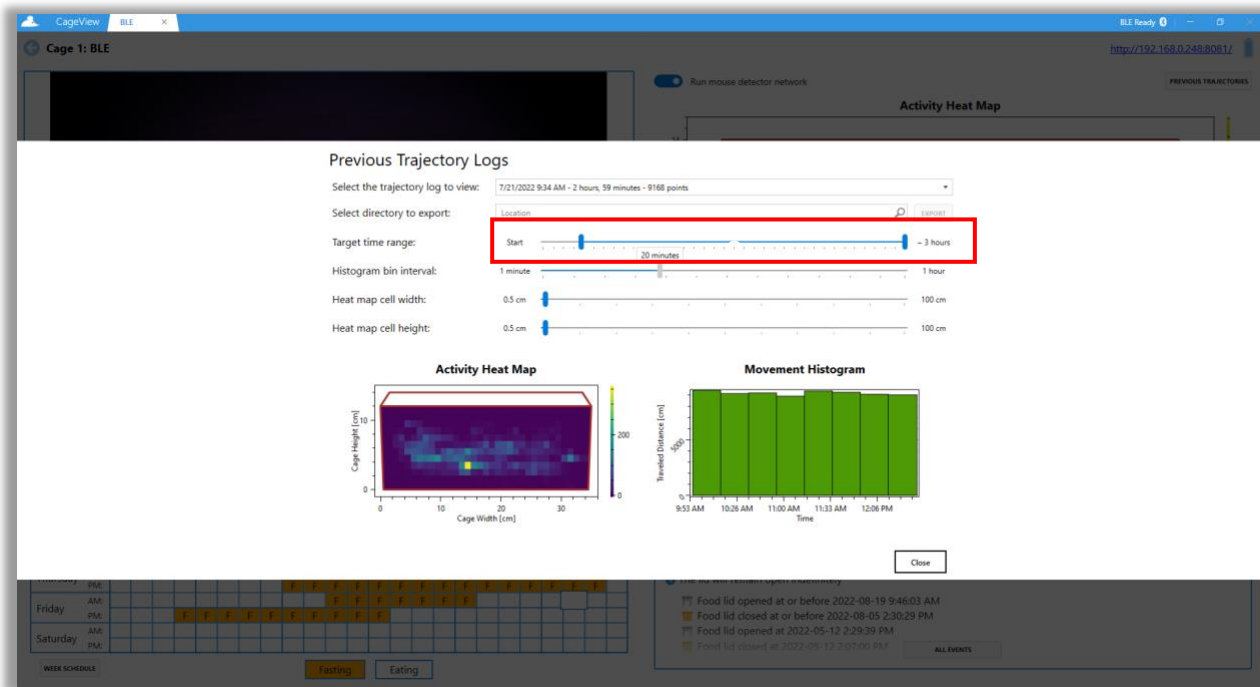

Figure 35. Customizing histogram bin interval
7.3.1. To customize the histogram bin interval range, drag the slider to set the preferred time bin, and the user should see a difference in data distribution on the movement histogram (**Figure 35**).